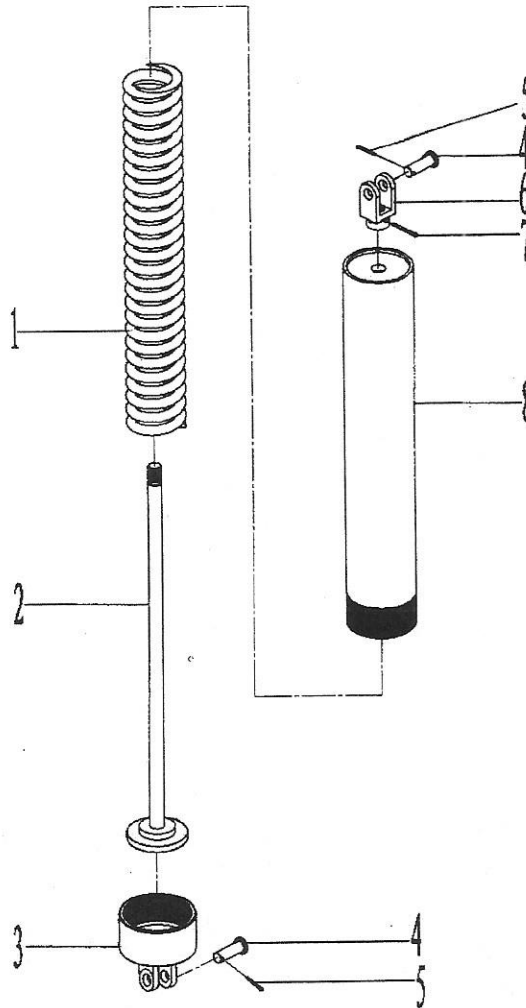

Fig32
29.Spring lift bucket assembly (Fig32, Table29)
- 8.8 Spring lift bucket assembly (Fig32, Table29)